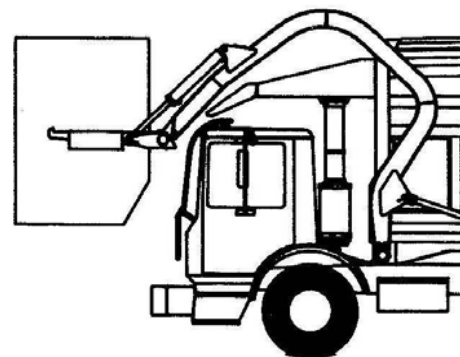

Figure 43. Raise Container With Arm and Fork Controls
8. If the unit does not have the AutoLevel™ feature, raise the container, alternating operation of the lift arm and fork controls to keep container level to the ground while you raise the lift arms over the cab. ONLY trained and experienced operators should level the forks during an ARM RAISE operation. See Figure 43.